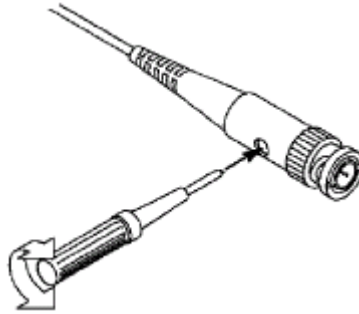

Figure 3-8 Adjust Probe
2. Check the displayed waveforms and regulate the probe till a correct compensation is achieved (see Figure 3-7 and Figure 3-8).